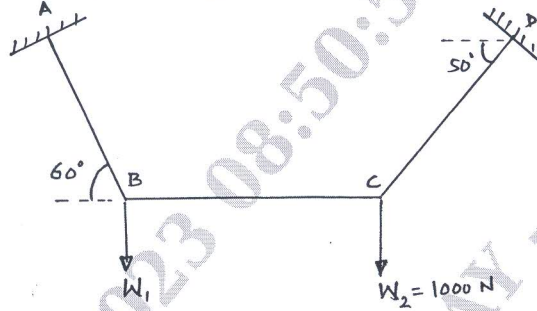

Fig.Q3(b)
- b. Find the forces in all the wires (AB, BC and CD) and the load W_1 to keep the wire BC horizontal. Take $W_2 = 1000 \text{ N}$. [Refer Fig.Q3(b)]